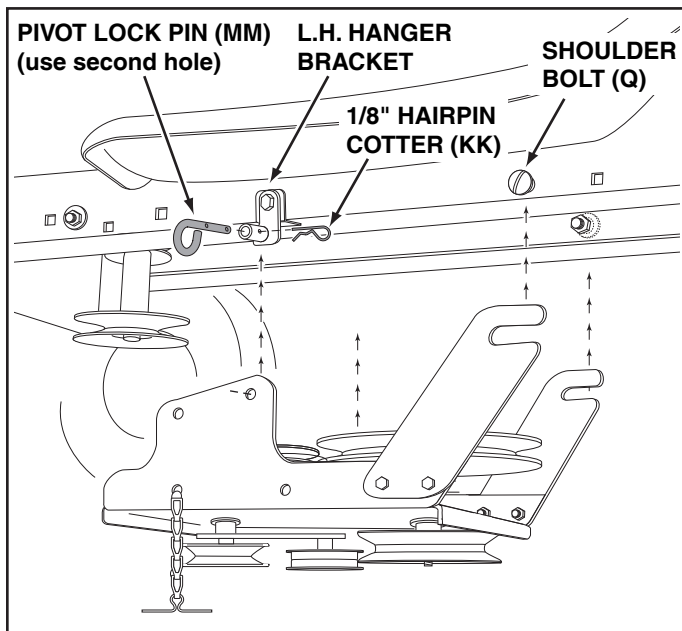

FIGURE 18 VIEWED FROM LEFT SIDE
STEP 19: (SEE FIGURE 18)
- Attach the clutch/idler assembly to the tractor frame. Hook the notched suspension arms onto the two shoulder bolts (Q) assembled to the outside of the tractor frame. Lift the front of the assembly and attach it to the R.H. and L.H. hanger brackets using two pivot lock pins (MM) and 1/8" hairpin cotters (KK).